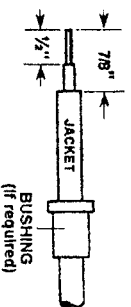
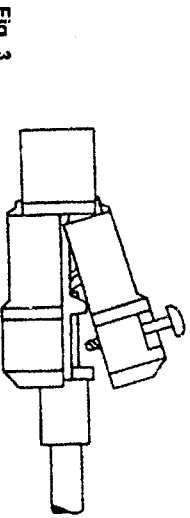

Fig. 2
Fig. 3
- Cut and strip each conductor as shown in Fig. 2. For 16 AWG and 1.5 mm² wire, slide bushing up cord as shown in Fig. 2.
- Polarized 250 volt --- Connect neutral (N) or unswitched conductor (white or blue) to terminal marked (N). Connect line (black or brown) to terminal marked (L).
- Assemble the device as follows (See Fig. 3):
- Prise polarisée de 250 volts --- Raccorder le conducteur neutre (bleu ou blanc) à la borne marquée (N) et raccorder le conducteur vivant (noir ou brun) à la borne marquée (L).
- Remonter le dispositif selon les indications suivantes (voir la fig. 3):
- Polarizado 250 voltios --- Conectar el conductor neutro o sin interruptor (blanco o azul) al borne marcado (N). Conectar el conductor vivo (negro o café) al borne marcado (L).
- Volver a armar el dispositivo (ver la fig. 3):